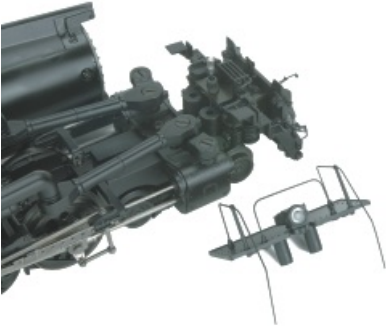

Figure 13
- 2) Remove platform on pilot to gain access to the headlight bulb (Fig. 13).